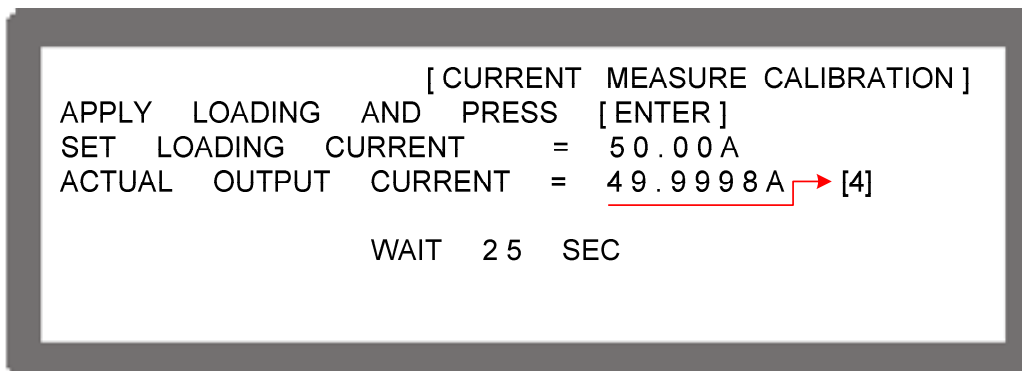

Figure 3-104
11. Press the “” to perform 50A calibration. The cursor will stop at position [4] as Figure 3-104 shows for setting the loading current of Electronic LOAD to 50.00A. Enter the current (4 digits after decimal point) read by Current Shunt (DVM) and press “” to confirm and wait for it to end. Use 20A and 50A for calibration, the system will calculate the calibration factor for the high current range.